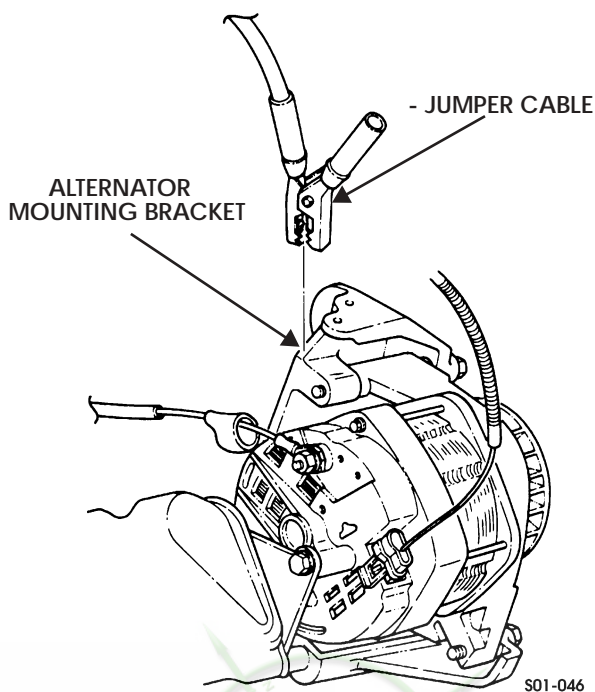

Figure 1-34: Alternator Mounting Bracket
5. Connect the other end of the negative (–) jumper cable to a solid ground (such as the alternator mounting bracket (Figure 1-34)).